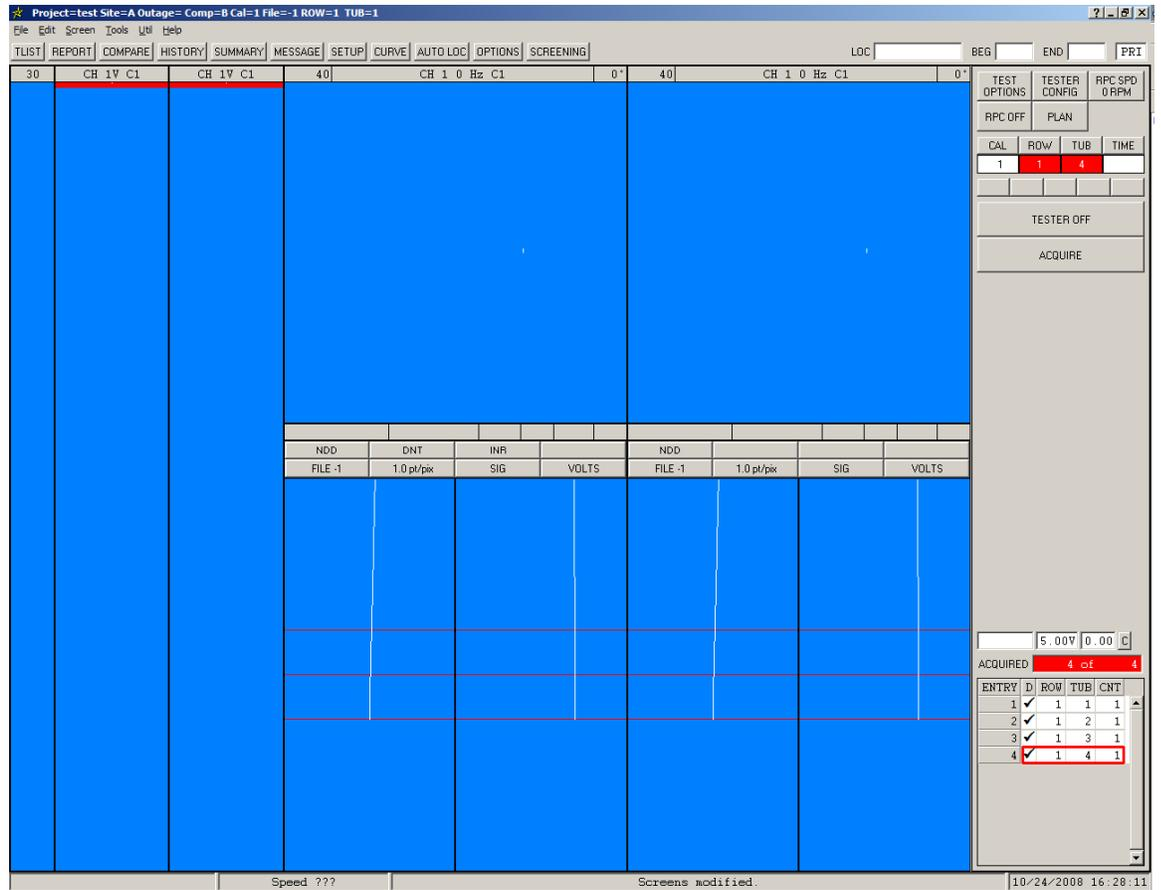

Figure 6
d. The screen should look similar to **Figure 6**.